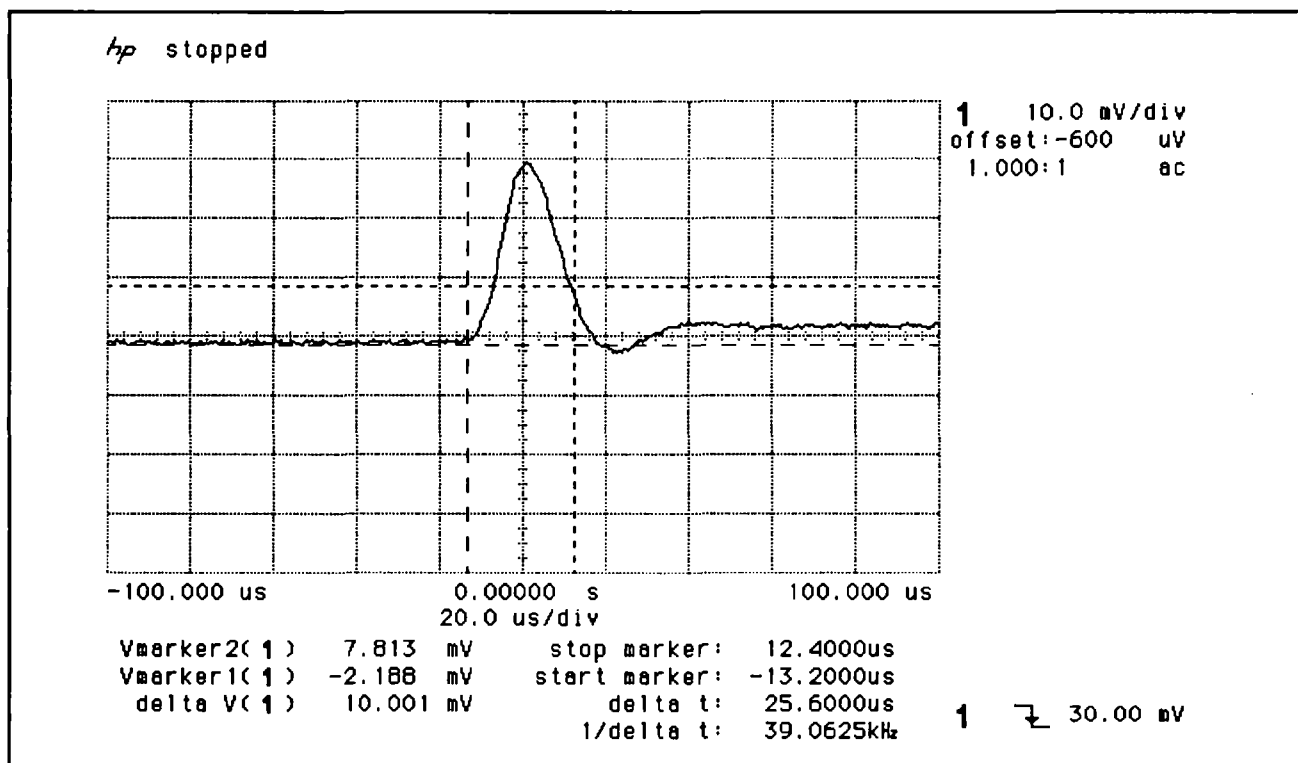

Figure A-3. Load Transient Recovery Waveform
- f. Adjust the oscilloscope to display transients as in Figure A-3.